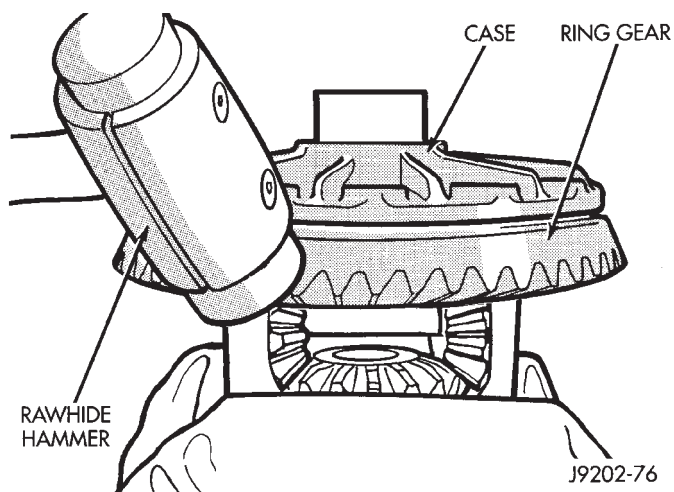

Fig. 42 Ring Gear Removal
- (3) If ring gear replacement is required, remove **and discard** the bolts holding the ring gear to the case. Tap the ring gear with a rawhide or plastic mallet and separate ring gear from case (Fig. 42).